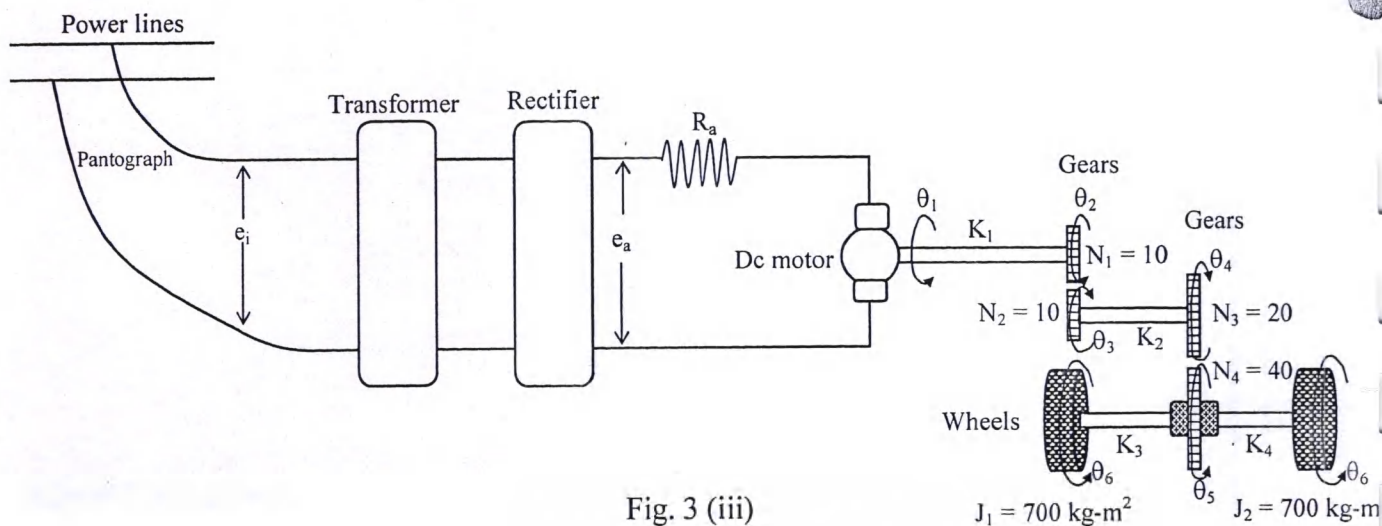

Fig. 3 (iii)
- (a) Determine the transfer function relating the input e_i and output θ_6 of Fig. 3 (iii). [5]